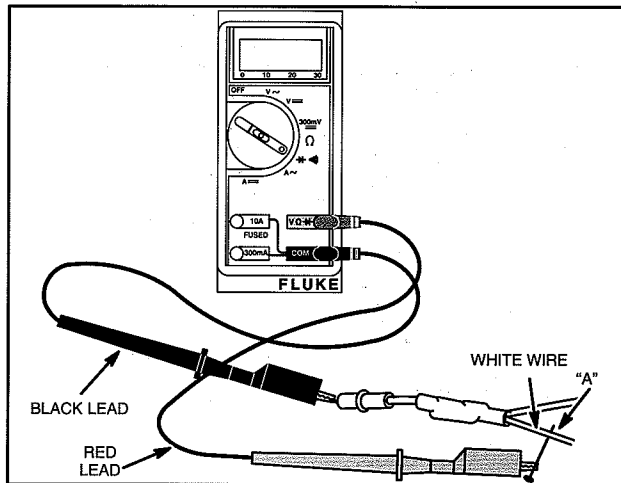

Fig. 19 – Diode Testing – Lighting Circuit
4. Attach RED test lead clip to point “A,” (white wire) Fig. 19. (It may be necessary to pierce wire with a pin as shown.)